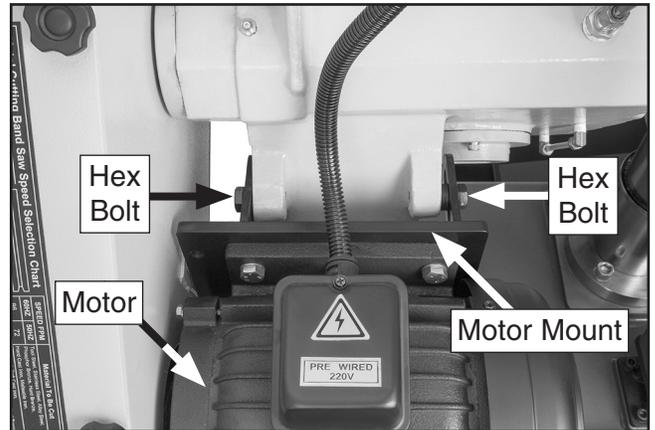

Figure 38. Location of motor mount hex bolts.
3. Loosen upper motor mount hex bolts (see **Figure 38**), allowing motor to pivot and V-belt to slacken.